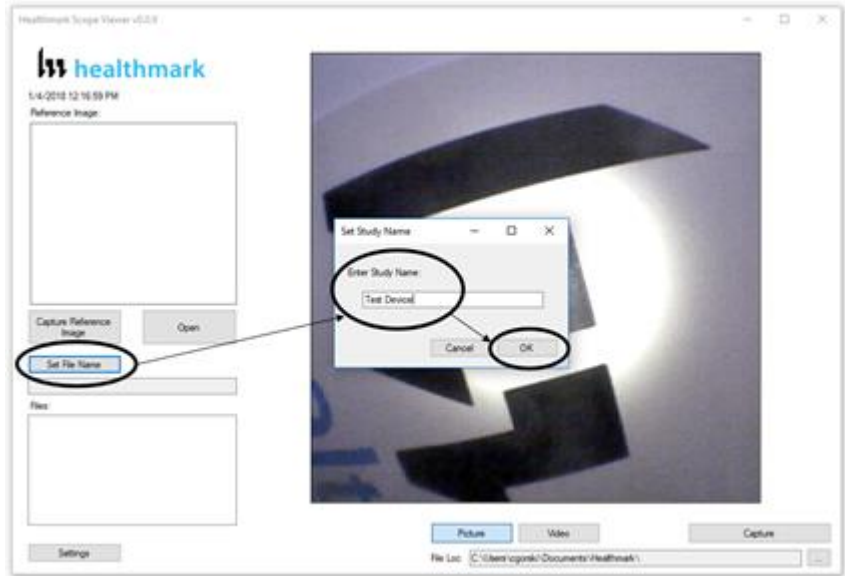

Figure 9
1. Click 'Set File Name' Button. **Fig. 9**